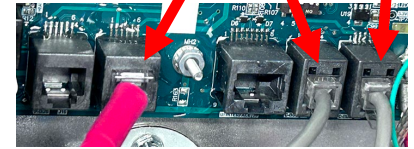

Figure 43
- 46. Reinsert the P-Bus and CAN cables into the control box and reconnect to the SIB board (see Figure 43).